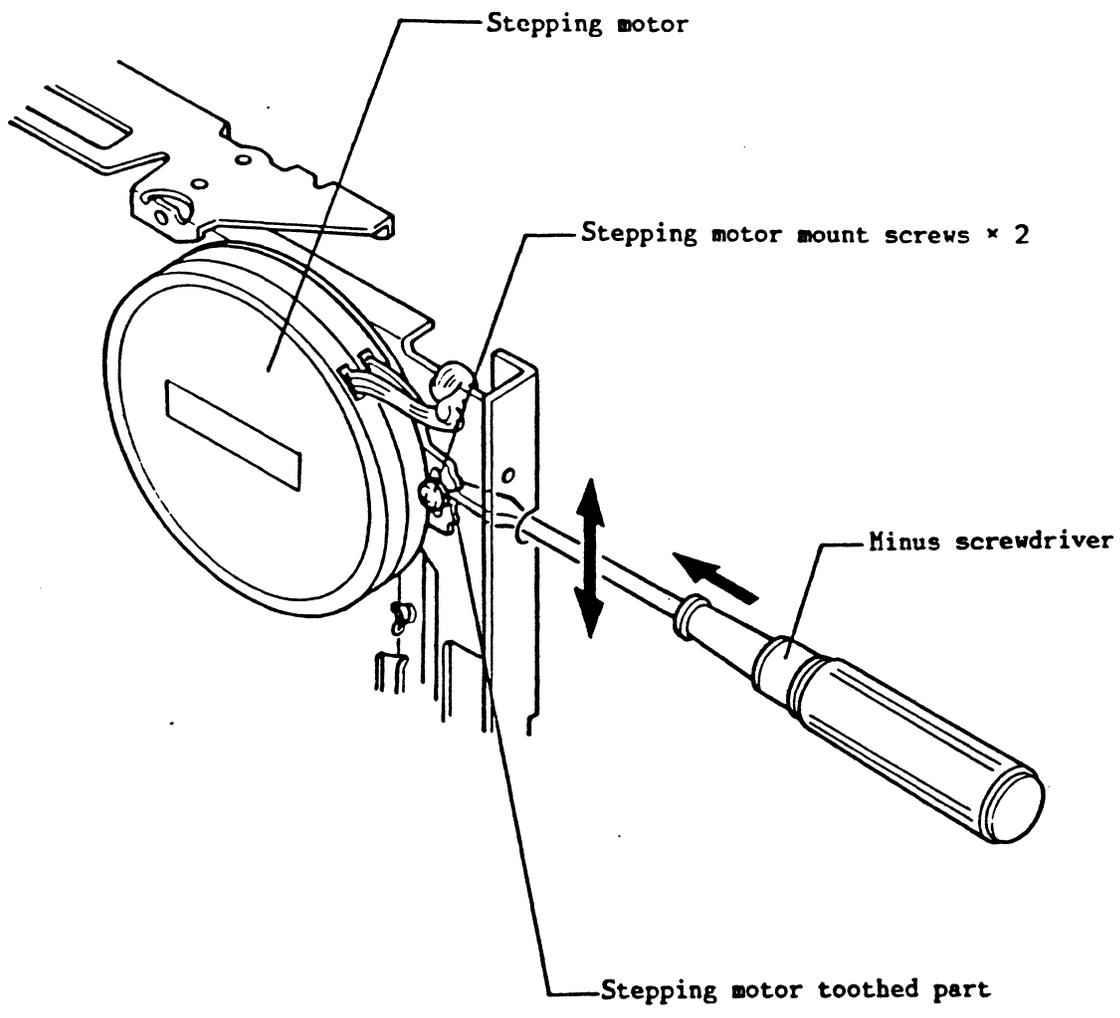

Fig. 417 Track Alignment Adjustment
- (10) Perform the operations of items (3) ~ (9) separately for side 0 and side 1.
- (11) When the results found in items (9) and (10) are outside the range, adjust the track alignment using the following procedure.
- (b) As shown in Fig.417, push the tip of a minus screwdriver into the toothed part of the stepping motor from the rear of Floppy Disk Drive.